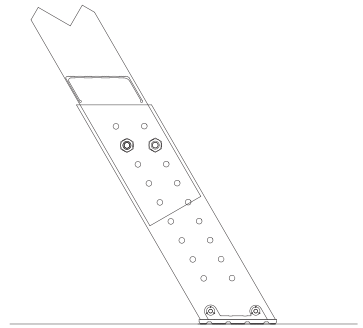

FIGURE 10
E. Slide aluminum foot over ladder rail as shown in Figure 10. Position so the rubber foot is in contact with the floor. Align with closest set of predrilled holes in rail. Attach using (2) ¼" bolts and serrated nuts per side (included).